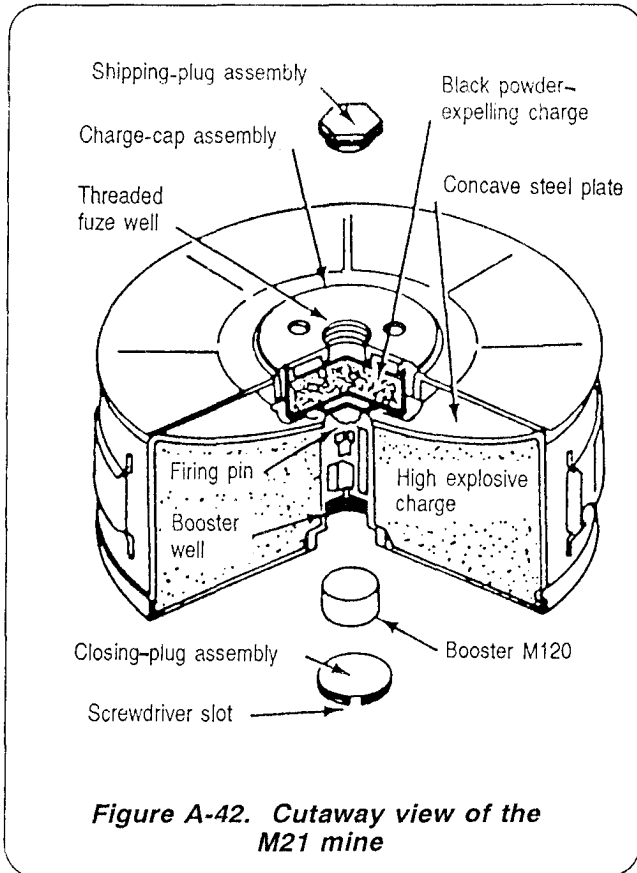

Figure A-42. Cutaway view of the M21 mine
- b. Examine the booster well for foreign material. If foreign material is present, gently tap the top of the mine with your hand to dislodge it. If it cannot be removed, replace the closing plug. DO NOT USE IT (Figure A-42).